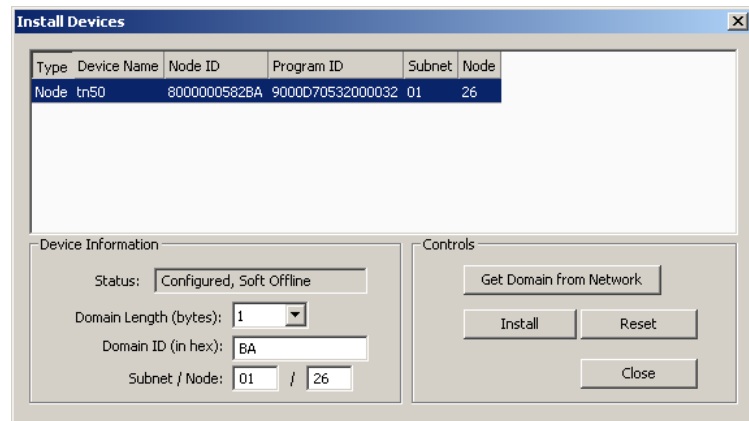

Figure 98: Install devices dialog.
5. Click the **Install** button. This opens the **Install Devices** dialog as shown in Figure 98.